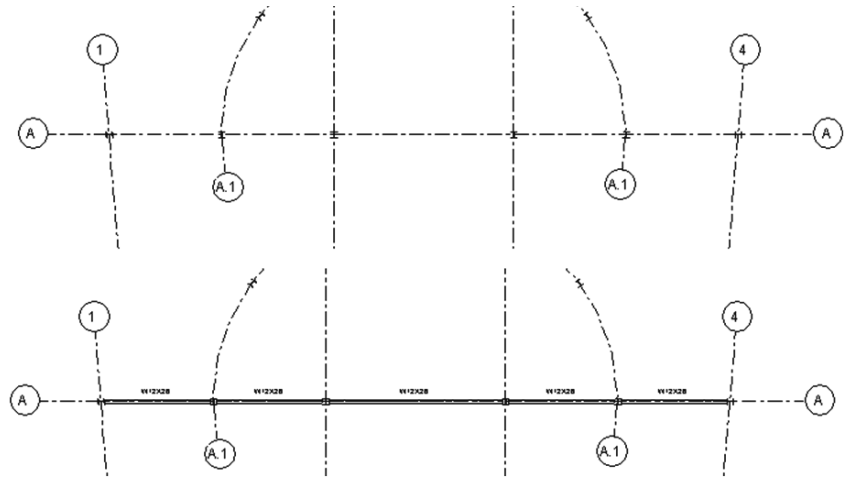

Figure 7–4
3. Select the grids where you want to locate the beams. A beam is placed between each grid intersection, as shown in Figure 7–4. Hold <Ctrl> to select more than one grid, or use a pick and drag window to select multiple grids at one time.